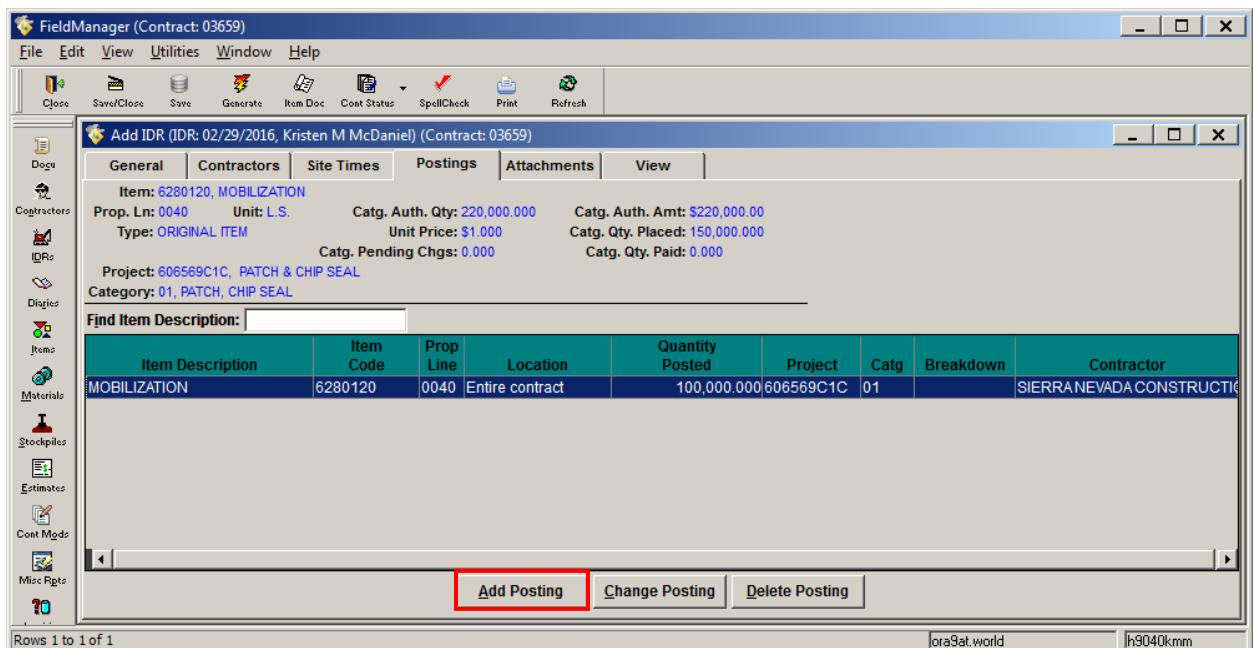

Figure 7-7. Add IDR Window – Postings Tab (Adding Additional Postings)
6. Click the **Add Posting** button to add additional items (Figure 7-7). Repeat steps 3 thru 5 for each item posting.